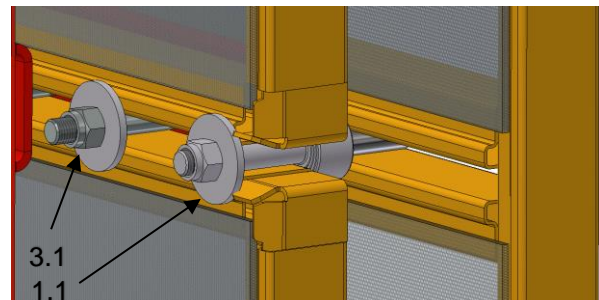

Fig. 10: Attach washer and nut
6. Attach guide pin with washer and nut. (Fig. 10)